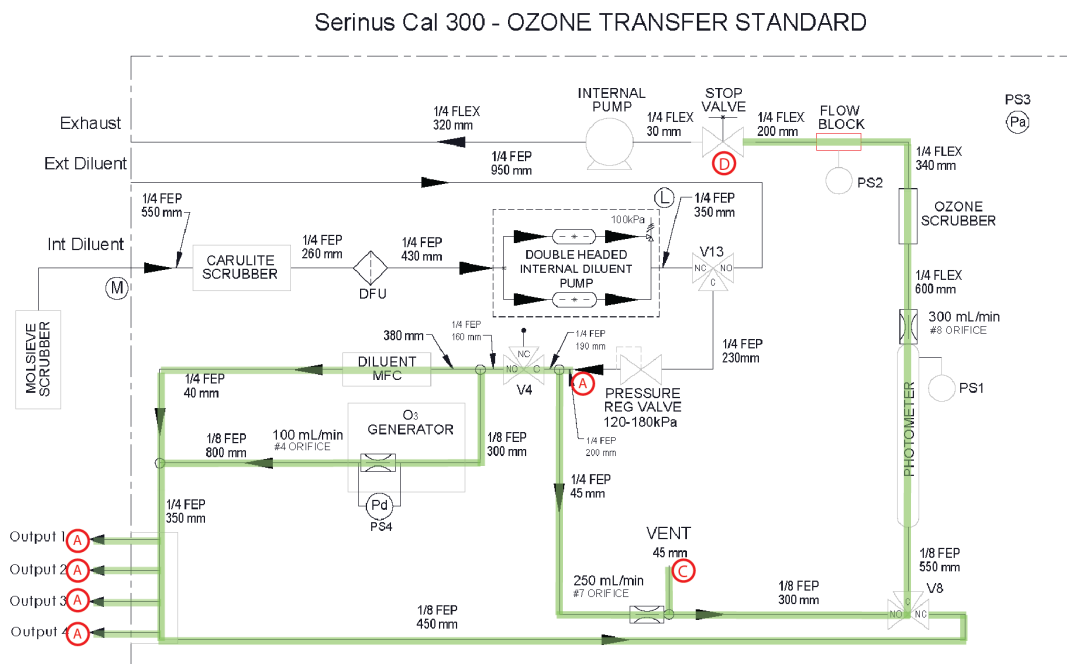

Figure 79 – Leak Check: 2 (Photometer + Gas Delivery + Ref. Air)
5. Wait 3 min with the internal pump running then turn the stop valve (90 degrees) marked as “D” on Figure 79.